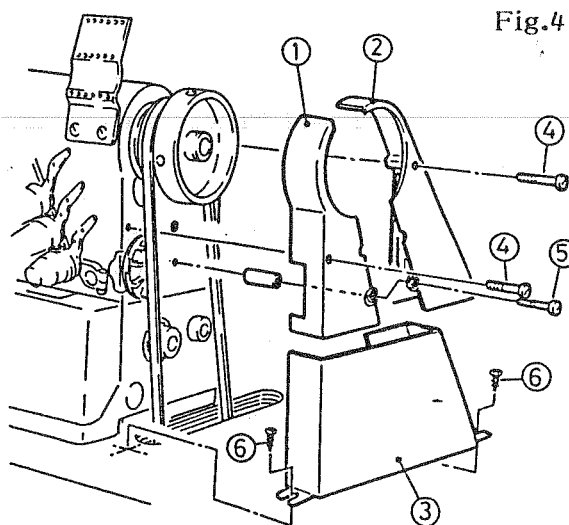

Fig.4
Install the belt cover (①, ② and ③) with screws ④, ⑤ and ⑥ by referring to Fig.4.